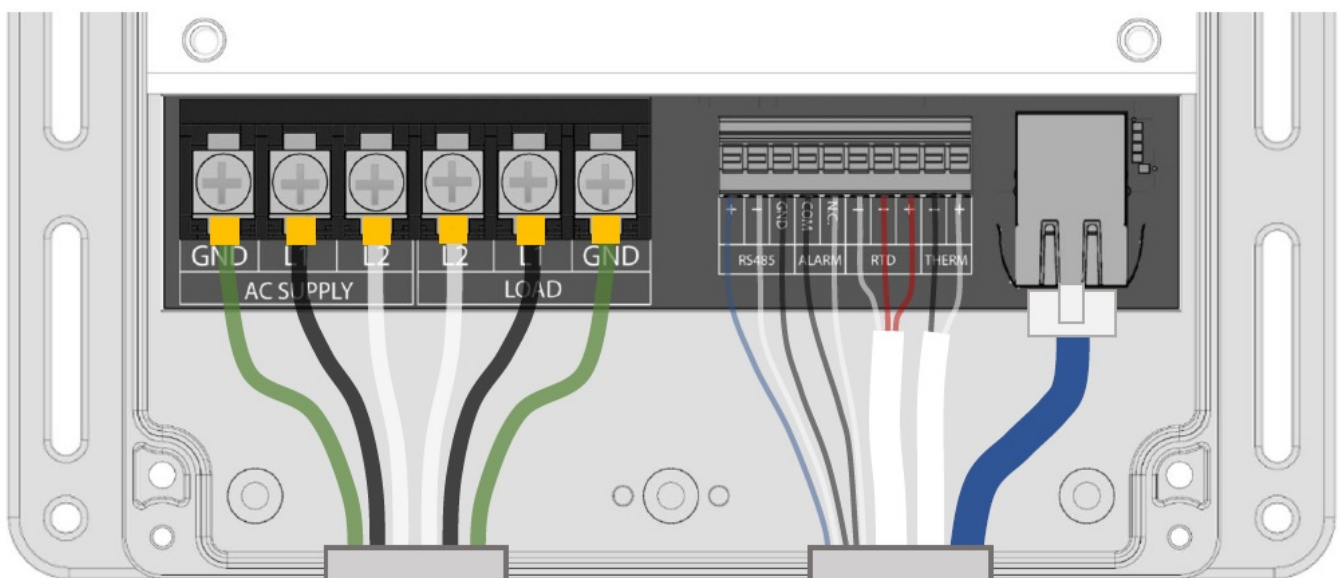

Figure 3: Top view of the Frio S1 controller with the wiring cover removed, showing all possible wiring connections.
1. With the controller mounted and both the clear cover and the wiring cover removed, connect low voltage sensor and communications wires according to the image in Figure 3. Always ensure the system is de-energized before making any wiring connections.
3. Connect heat trace leads to the LOAD side as shown in Figure 3. The ground sheath of the heat trace must be connected to the ground terminal on the controller.
4. Connect the power leads to the AC SUPPLY as shown in Figure 3. The ground connection on the controller must be properly connected to ground in accordance with local and national electrical codes.